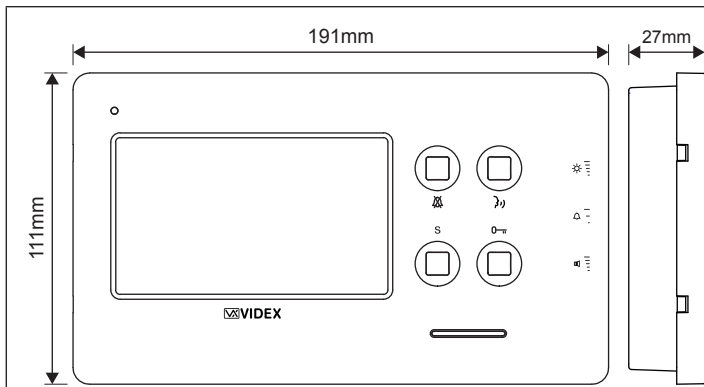
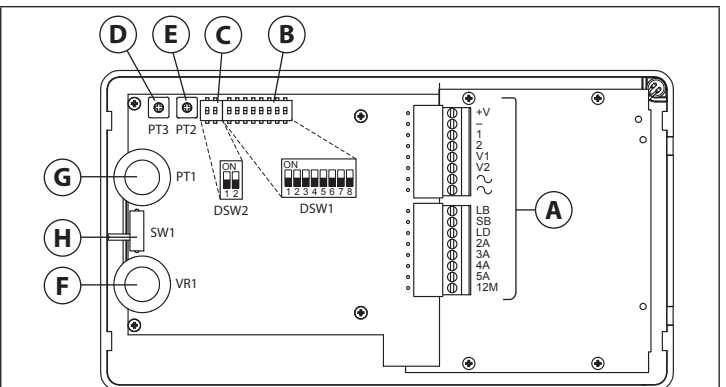

Fig. 1
Fig. 2
- Place the surface box against the wall (165-170cm between the top of the box and the floor level as shown in **Fig. 1**) and mark the fixing holes for the wall plugs and the hole for the cables **(E)** (**fig. 2**). Observe the orientation of the box with the hinge on the left;
- As shown on **Fig. 2**, drill the fixing holes **(A)**, insert the wall plugs **(B)** and feed the cables **(E)** through the surface box opening **(D)**, fix surface box **(C)** to the wall using the screws **(F)**;
- Protect the module support frame fixing holes from dust then embed the back box into the wall (165-170cm between the top of the box and the floor level as shown on the **Fig. 1**) feeding the cables **(E)** (**Fig. 2**) through a previously opened hole in the box. Observe the direction of the box ensuring the hinge is on the left and take care that the box profile is in line with the finished wall profile;